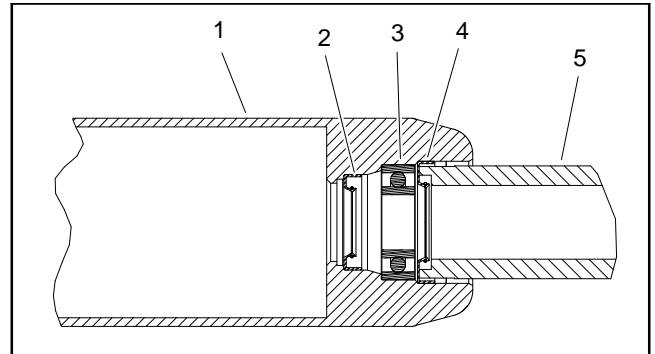

Figure 37
C. Install first outer seal into roller tube making sure that seal lip (and garter spring) faces end of tube. Use bearing/outer seal tool (see Special Tools) and soft face hammer to lightly seat seal against roller shoulder (Fig. 37). Make sure that bearing still freely rotates after seal installation.